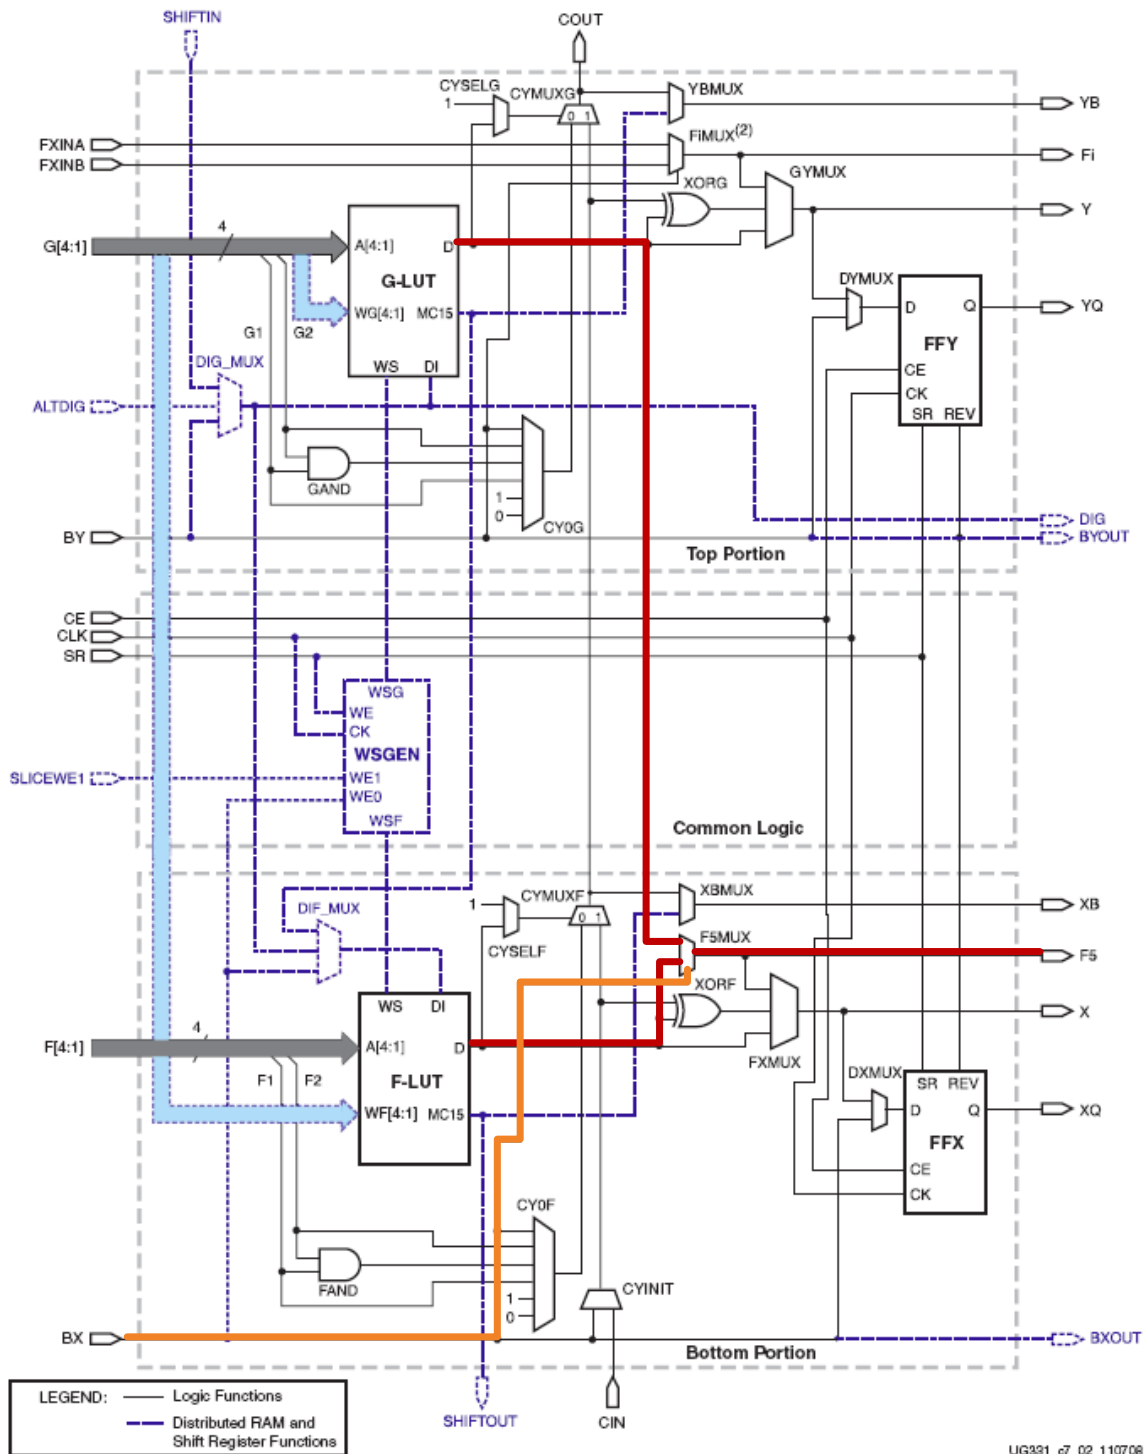

Figure 3: Problem 5.
- (a) Despite the Spartan and Virtex being different families, the Spartan (like the Virtex) uses dedicated MUXs to build larger LUTs. Figure 3 shows the path that connects the two 4-LUTs together. In this case, the F5MUX is responsible for joining the outputs of the two 4-LUTs together.